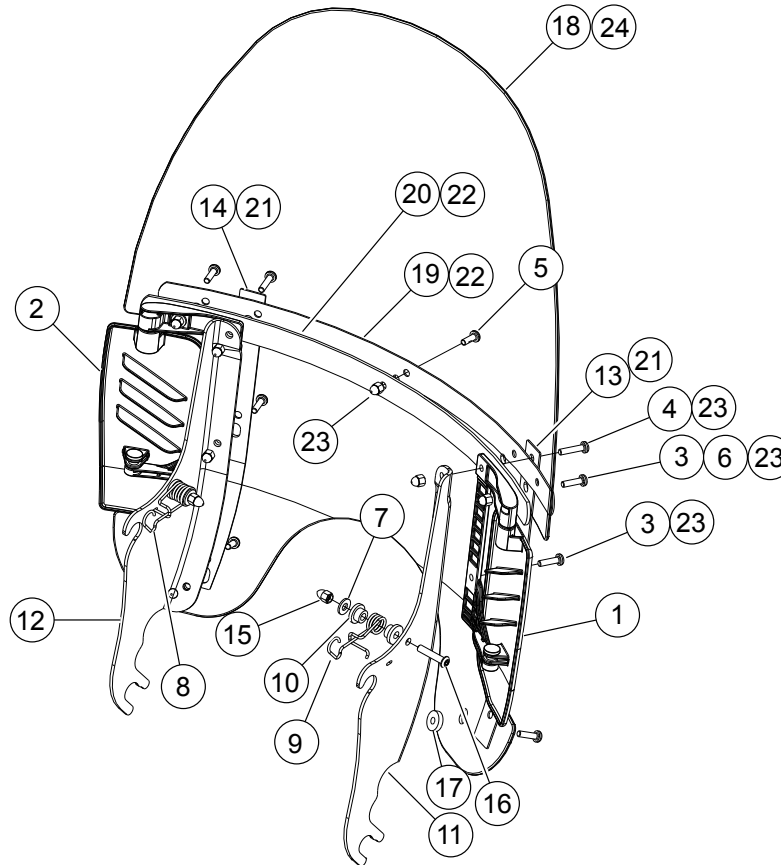
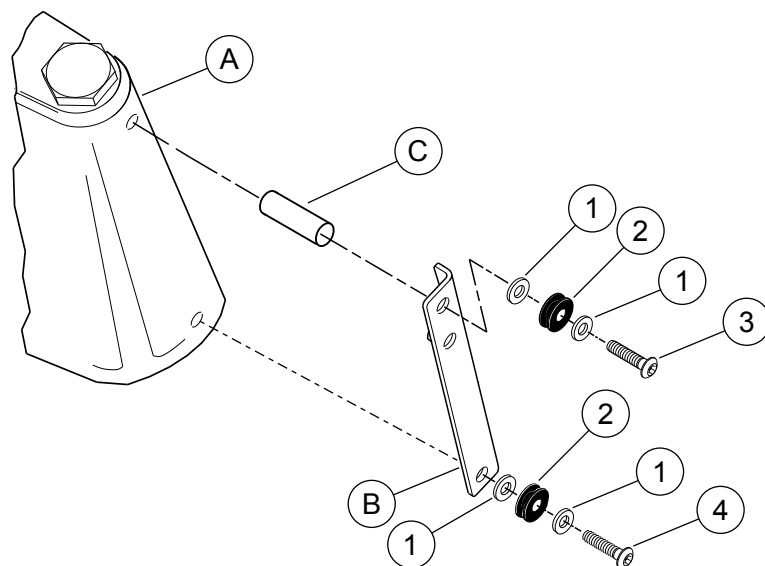

Figure 1. Service Parts: Vented Detachable Windshield
Figure 2. Service Parts: Hardware Kit
See Figure 1 and Table 1, Figure 2 and Table 2.
2. Figure 2 and Table 2. Remove and discard the original bottom fog/passing lamp bracket screw (4) and washer (1).
3. Place a new flat washer (1), bushing (2) and flat washer (1) on a 1-3/8 inch long screw (4) from the kit. Thread the screw through the lower hole in the fog/ passing lamp bracket and decorative fork cover, and into the triple clamp. Tighten the screw to 10.8 N·m (8 ft-lbs).
5. Place a flat washer (1), bushing (2), and flat washer (1), on a screw (3) from the kit. Place the screw through the top hole of the fog/passing lamp bracket and through OE spacer. Tighten screws to 10.8 N·m (8 ft-lbs).